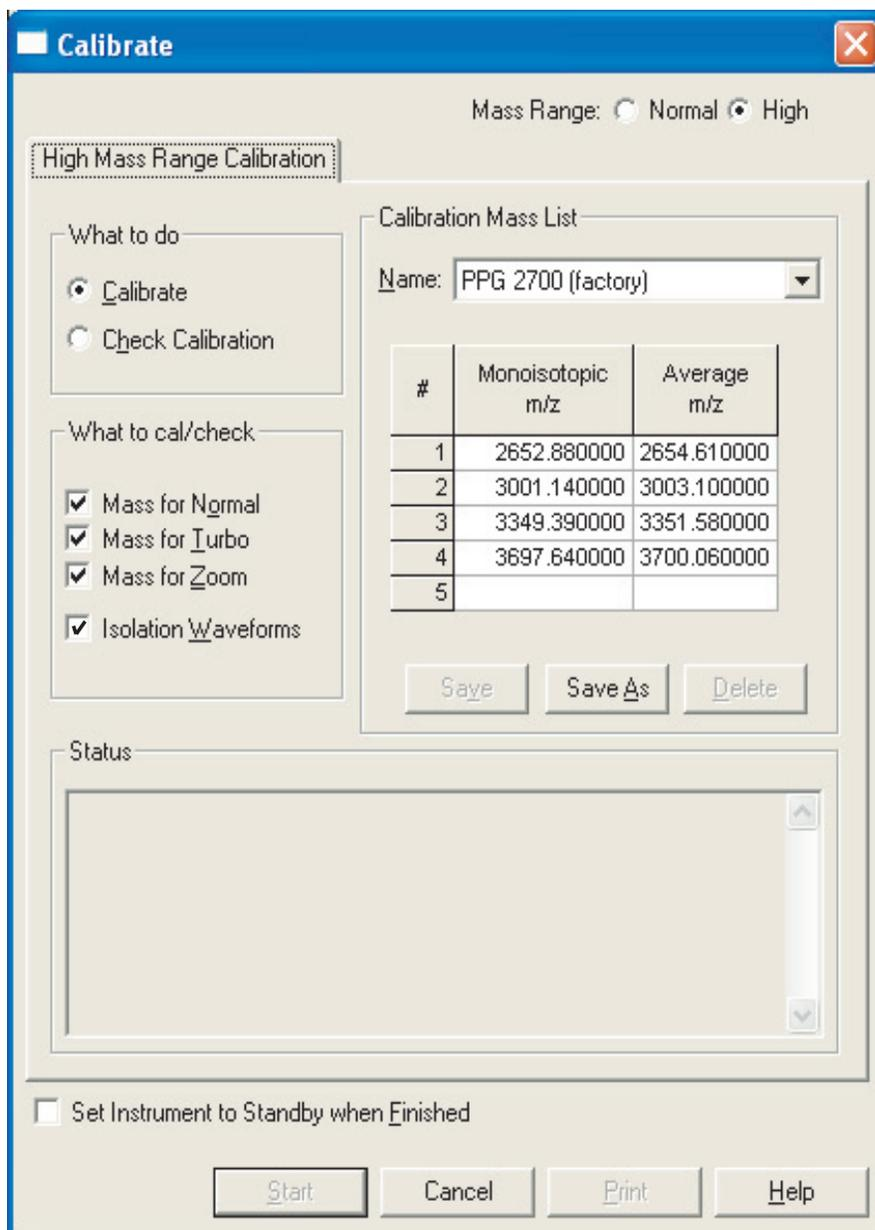

Figure 74. Calibrate dialog box
4. In the Tune Plus window, choose **Control>Calibrate** to open the Calibrate dialog box (Figure 74).
5. For Mass Range, select the High button (upper right of the Calibrate dialog box). The High Mass Range Calibration tabbed page appears (as shown in Figure 74).
- a. Select the Name list from the name of a previously saved calibration mass list. The calibration masses saved in the selected list appear in the table below the Name list box (in the Monoisotopic m/z and the Average m/z columns). The example in Figure 74 shows the calibration masses saved for the calibration mass list: PPG 2700 (factory).
9. In the 'What to cal/check' area, click the Mass for Normal, Mass for Turbo, Mass for Zoom, and the Isolation Waveforms check boxes as shown in Figure 74.